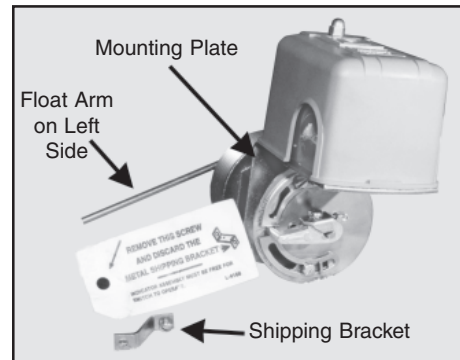

FIGURE 3—Float Switch
- D. Remove shipping brackets on all the external float switches. Per instructions on tag attached to float switch, remove shipping bracket (See Figure 3) from each float switch as per manufacturer's instructions. The float switches have been factory set for maximum capacity of the receiver. Should an alternate setting be required, refer to the float switch manufacturer's instructions. If needed, reference Technical Articles section on the SHIPCO® website (www.shipcopumps.com) for detailed instructions on how to adjust a float switch (*Adjusting a Nema 1 Square-D, 9037 Series Float Switch*).